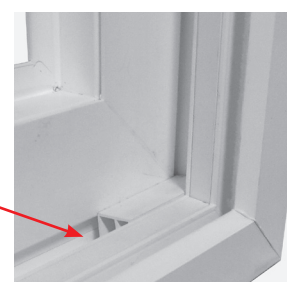

Figure 22
F) Install the weep baffle with the short leg of the baffle against the fixed panel. **See Figure 22**